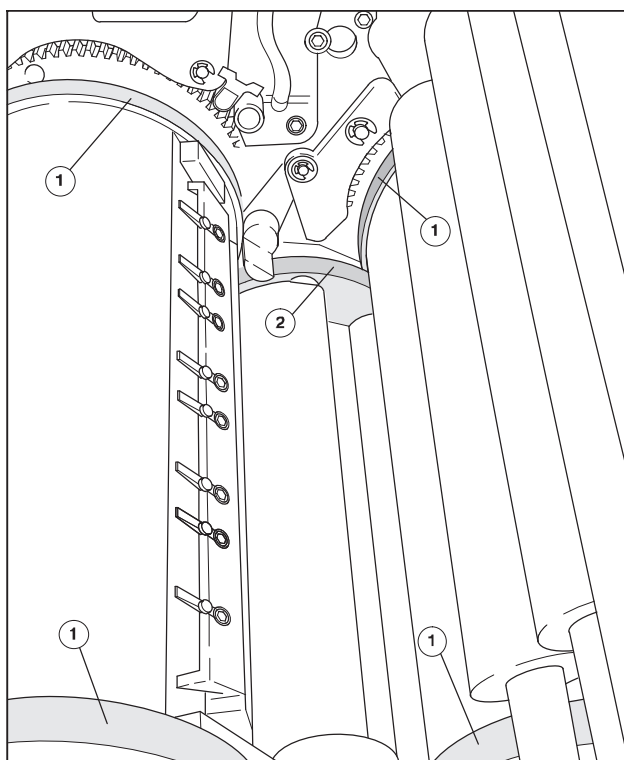

Fig. 46 Cleaning the bearers
4. Pull the cross bar out of the bearing unit on D.S. and remove **pressing rollers** (Fig. 45/1) from the press. The bearers of the plate cylinders (Fig. 46/1) and the blanket cylinder (Fig. 46/2) are accessible.
5. Rotate the press with the crank handle and clean the bearers (Fig. 46/1 and 46/2) with a cloth soaked in washing fluid.